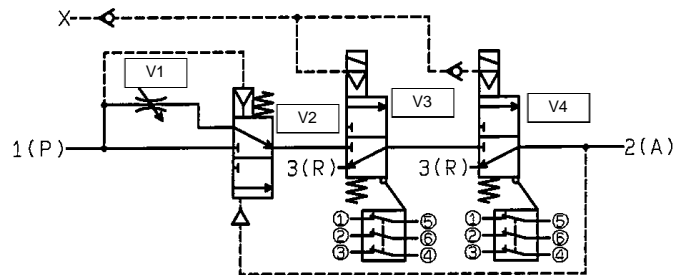
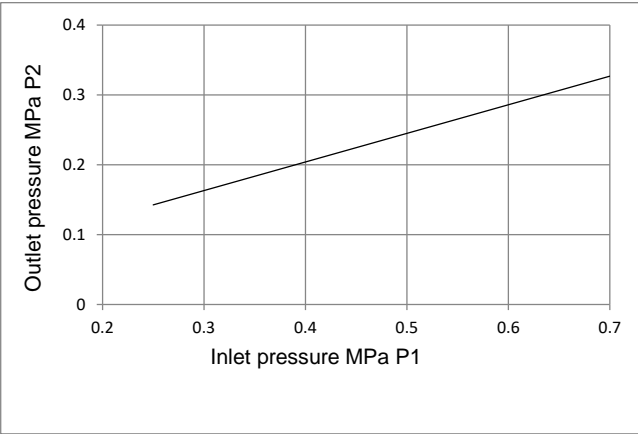

Figure 9. External pilot (Rockwell switch variant shown for reference)
Figure 10. Switching pressure (Close → Open) of soft start-up valve V2
- In a safety related application, the machine safety system will energise the safety valves (V3 and V4 in Figure 9) when the machine is safe to operate. When both valves are energised air will flow into the protected system via port 2 (A). The flow is initially limited by needle valve V1 and pressure in the protected system will remain low as the system fills or actuators move slowly. The pressure will eventually rise as the system becomes full or the actuators stop moving. As P2 pressure increases (see Figure 10) valve V2 switches and valve V1 is by-passed. In this condition air will flow into the protected system according to the figures given in section 2.3.